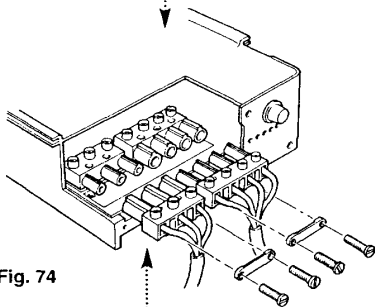

Fig. 74
7. Clamp the cables in the grips provided. Ensure that the lengths of the supply cables are such that the current carrying wires become taut before the earth wires if the cable should pull out of the cable clamp (Fig. 74).